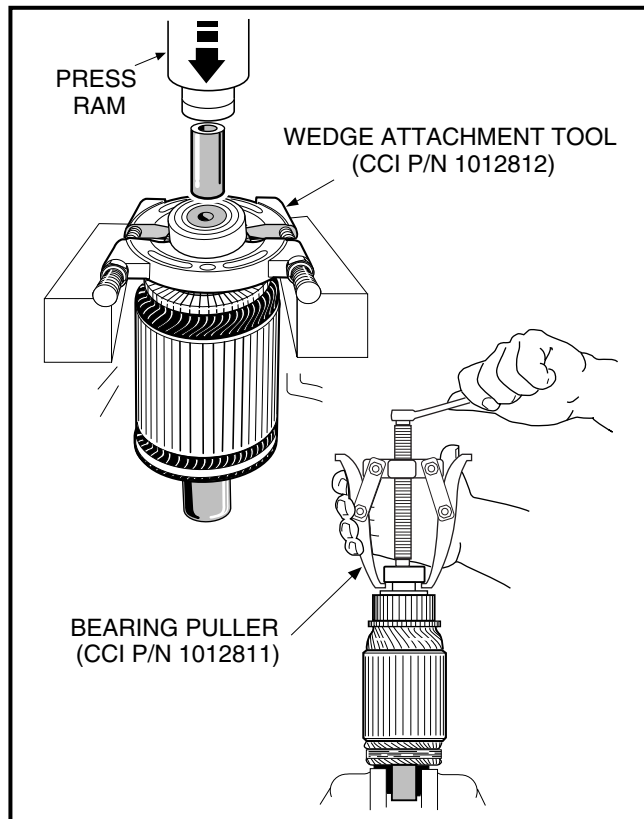

Figure 15-11 Bearing Removal
1. Place the wedge attachment tool (CCI P/N 1012812) between the bearing (15) and the armature (17) (**Figure 15-10, Page 15-8**). Make sure the wedge attachment tool is supporting the inner race of the bearing. If a press is not available, secure a bearing puller (CCI P/N 1012811) to the bearing and pull the bearing off the end of the armature shaft. Support the shaft so it will not drop when the bearing is removed (**Figure 15-11, Page 15-9**). Discard the bearing.